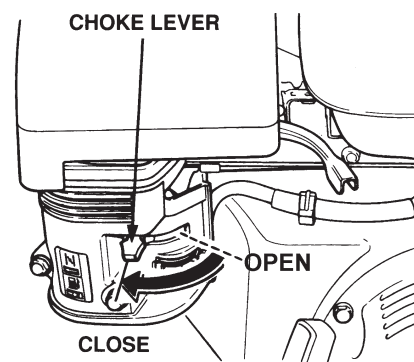

Figure 18. Engine Choke Lever
3. Place the **choke lever** (Figure 18) in the "CLOSED" position if starting a **cold engine**.